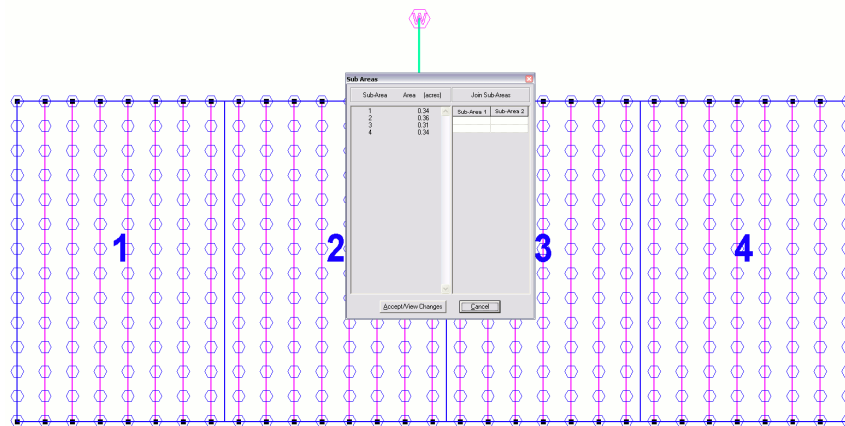

Figure 4-46
5. Click **[OK]**. A dialog will appear and a preview of the subdivision specified will be shown in the design view. Click the **[Accept/View Changes]** button to accept the subdivision. See Figure 4-46.